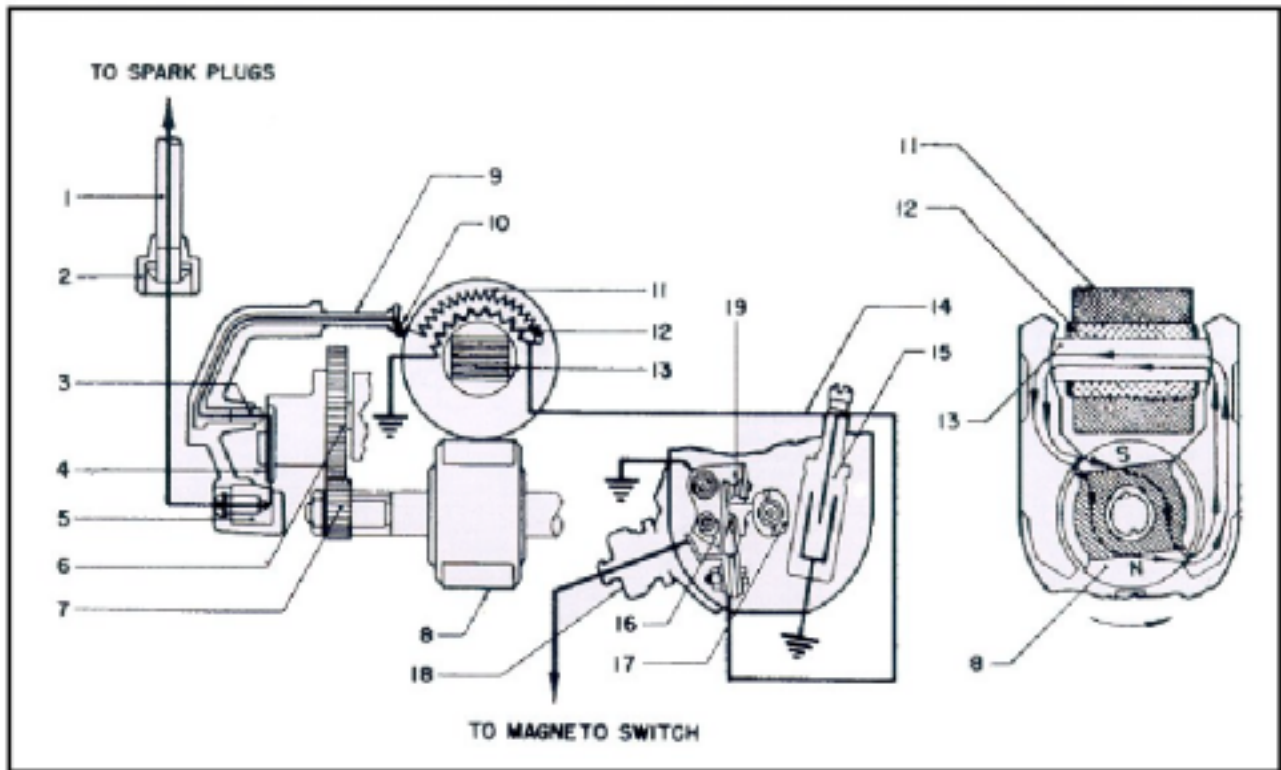

Figure 3. Schematic Diagram, Electric and Magnetic Circuits
(See figure 3) The magnet rotor assembly (permanent magnet (8) and two laminated poles), rotating in the housing tunnel, sets up a magnetic flux. The housing pole shoes, bridged at their upper ends by the laminated coil core (13), completes the magnetic flux circuit. The direction of the magnetic flux through the coil is reversed twice for each revolution of the magnet rotor. Reversal of the flux generates a current in the primary winding (12) of the coil. This current represents energy which is stored in the magnetic circuit due to changing the magnitude and direction of the flux. Opening the breaker contacts (19) actuated by the breaker cam,